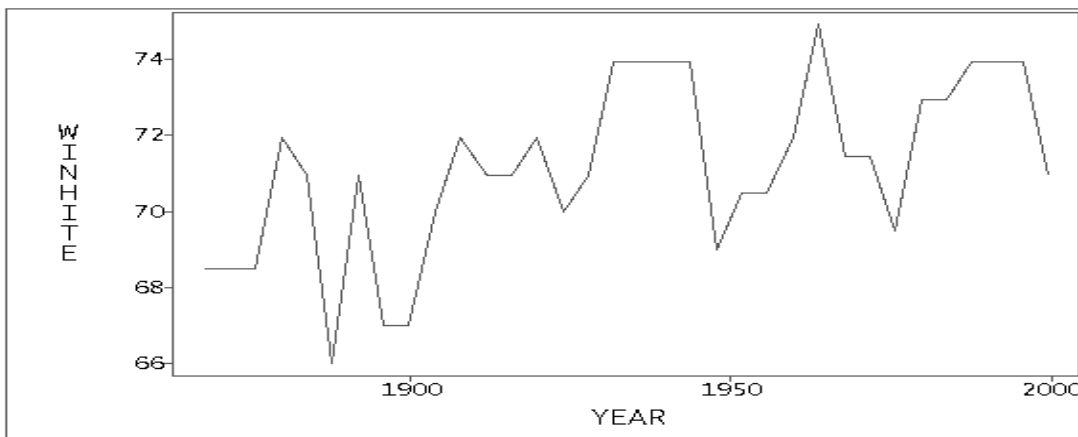

Figure 2: *Time series plot of election winner's heights.*
- o Time Series Plot (or Line Plot): shows pattern of variation evolving over time. Figure 2 displays a time series plot of election winner's heights from the prezHITE data set.